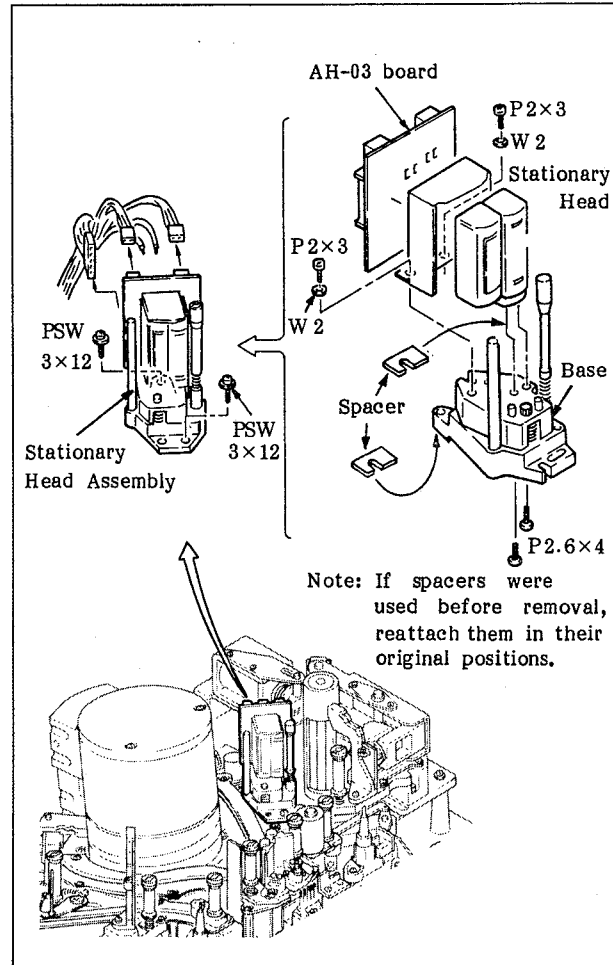

Fig. 6-125 Replacement of the Stationary Head
3. Remove the stationary head and replace it with a new one by referring to Figure 6-125.
6. Reattach the removed components by referring to Figure 6-125.